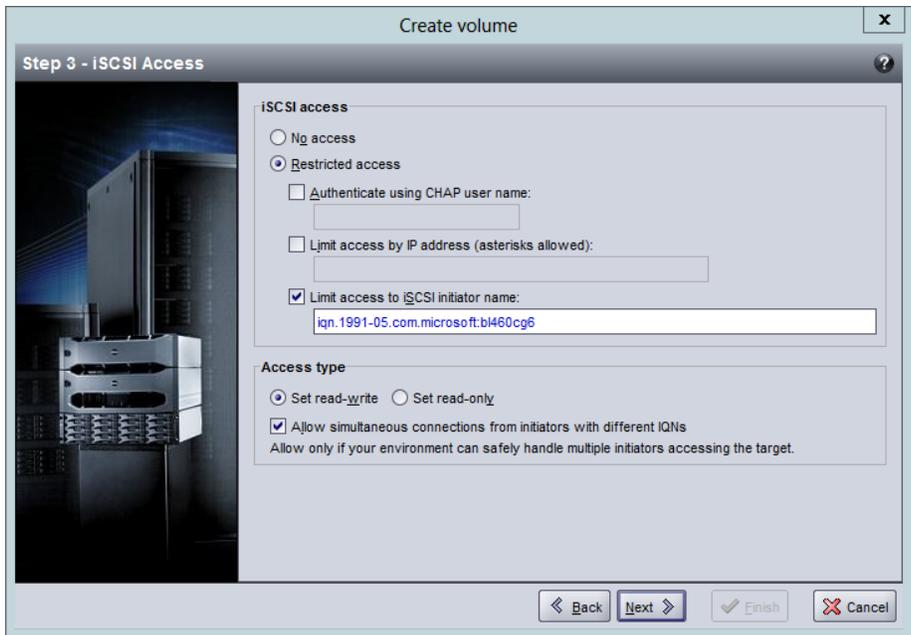

Figure 26: Selecting an iSCSI access method.
6. Select an iSCSI access method appropriate to your environment. We restricted access to each specific volume by the iSCSI initiator name and entered the IQN of the appropriate HP ProLiant BL460c blade server. Check the Allow simultaneous connections from initiators with different IQNs box for any volumes you plan on sharing with multiple blade servers or VMs. Click Next. (See Figure 26.)